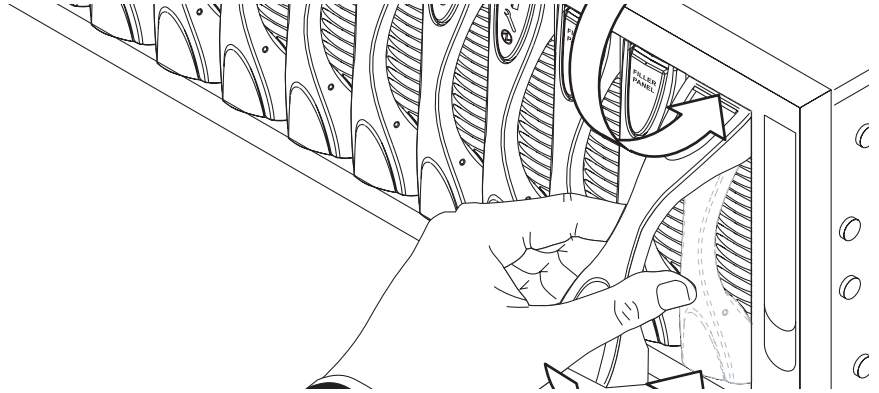

FIGURE 2-6 Closing the Blade Lever Mechanism
7. Gently push the blade into the slot until the blade latch ears, on top of the lever, are positioned in the Sun Fire B1600 blade chassis (FIGURE 2-6).
8. Complete the blade installation by closing the blade lever fully, which engages the blade into the Sun Fire B1600 blade chassis slot (FIGURE 2-6).